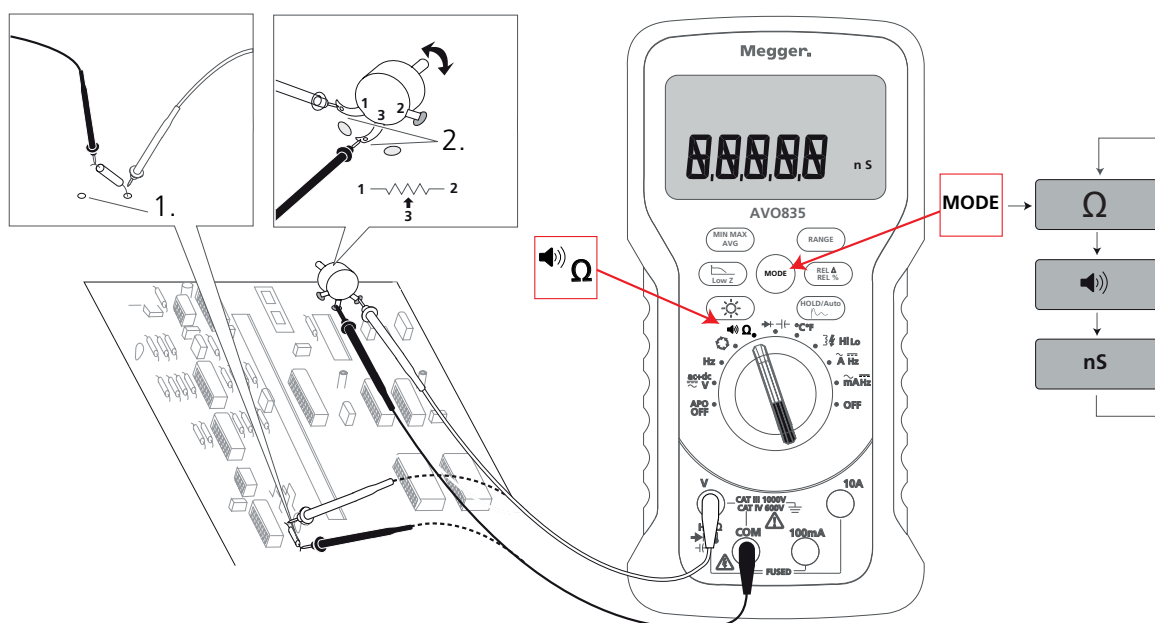

Fig 5: Conductance Measurement Set-up
2. Set-up the instrument as shown in Fig 5.